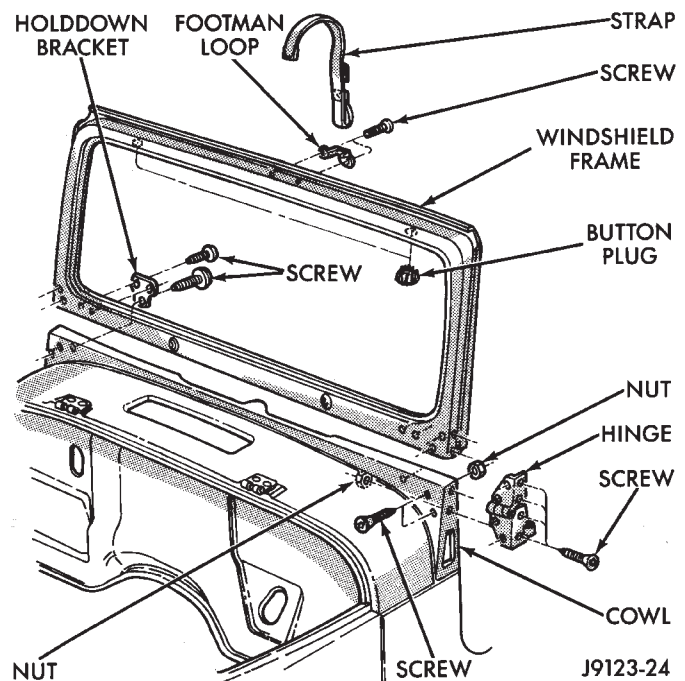
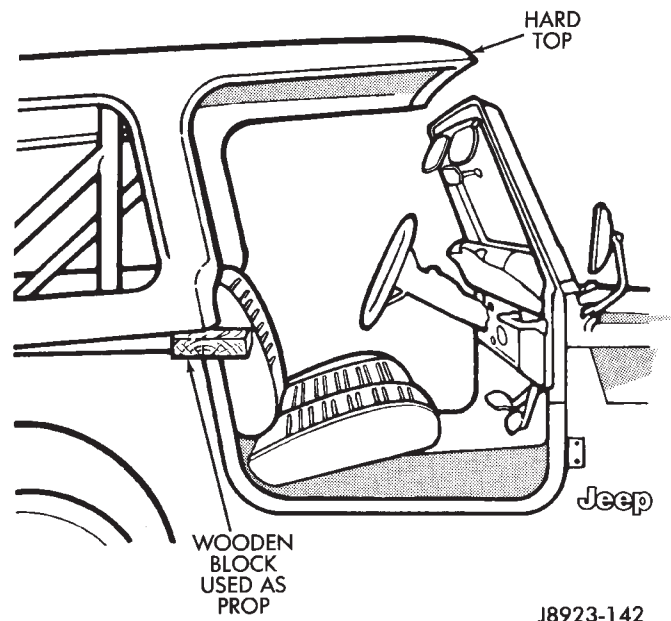
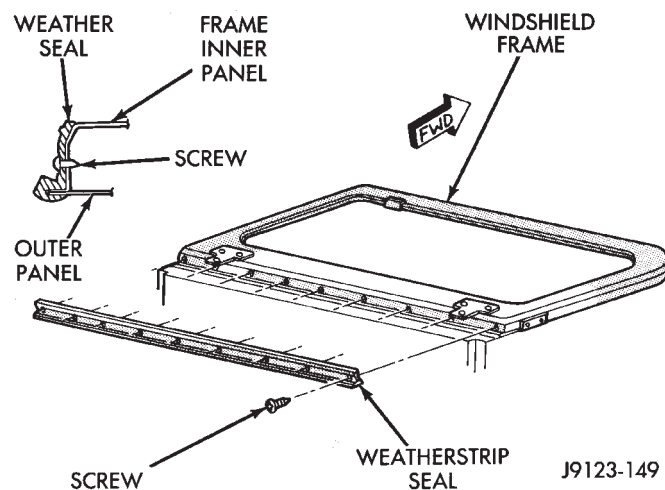

Fig. 2 Windshield Frame Removal/Installation
Fig. 3 Hard Top Detached From Windshield Frame INSTALLATION
Fig. 4 Windshield Frame Weatherstrip Seal
The windshield frame and glass can be removed as a unit for service access (Fig. 2). The windshield frame can also be tilted forward to a full horizontal position and retained in-place with the strap when complete removal is not necessary.
(1) Remove the windshield wipers. Refer to the removal procedure.
(2) For vehicles equipped with a soft top, disconnect the fabric top from the windshield frame retainer rail. If necessary, refer to the soft top removal procedure.
(3) For vehicles equipped with a hard top, disconnect the top from the windshield frame. Loosen the retaining screws, tilt the top rearward and support the top away from the windshield frame (Fig. 3).
(4) Remove the retaining screws and the windshield/door hinges from the cowl (Fig. 2).
(5) Remove the holddown bracket retaining screws from the cowl (Fig. 2).
(6) Remove the windshield frame and glass from the cowl as a unit (Fig. 2).
(7) If necessary, remove the sunvisors.
(1) Position the windshield frame on the cowl (Fig. 2).
(2) Install the holddown bracket retaining screws in the cowl (Fig. 2).
(3) Install the windshield/door hinge retaining screws (Fig. 2).
(4) Connect the top to the windshield frame. If necessary, refer to the applicable top installation procedure.
(5) For vehicles equipped with a soft top, connect the fabric top to the windshield frame retainer rail. If necessary, refer to the soft top installation procedure.
(6) For vehicles equipped with a hard top, remove the supports, tighten the retaining screws, and connect the top to the windshield frame (Fig. 3).
(7) Install the windshield wipers. Refer to the installation procedure.
(8) If removed, install the sunvisors.
The windshield frame weatherstrip seal can be removed and installed with the frame tilted forward to the full horizontal position (Fig. 4).
(1) Disconnect the top from the windshield frame. If necessary, refer to the windshield frame removal procedure.
(2) Remove the holddown bracket retaining screws from the cowl (Fig. 2).
(4) Remove the retaining screws and the weatherstrip seal from the windshield frame (Fig. 4).
(1) Position the weatherstrip seal on the windshield frame (Fig. 4). Ensure that the frame outer panel flange is properly "seated" in the seal groove.
(2) Install the seal retaining screws in the windshield frame (Fig. 4).
(3) Tilt the windshield frame rearward to the full vertical position.
(4) Install the holddown bracket retaining screws in the cowl (Fig. 2).
(5) Connect the top to the windshield frame. If necessary, refer to the windshield frame installation procedure.